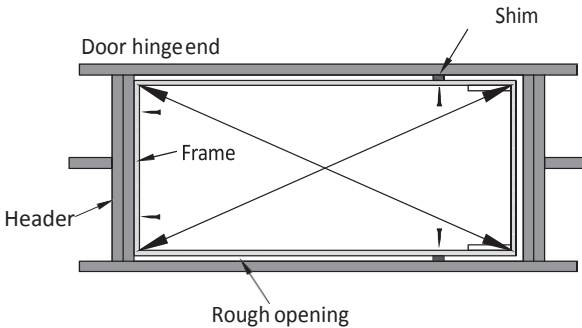

FIGURE 7
F. Make sure frame on door hinge end of ladder is pushed up against header and is centered side to side in rough opening. With the door closed, secure frame to header using two 2 1/2" wood screws (Figure 7). Due to the tight conditions, screws will need to be installed at an angle through the frame and into the header. Do not use the pre-drilled holes for the wood screws. These holes are used in Step 2.
G. Carefully open attic ladder door but do not unfold the climbing section until indicated in step 3. Center and square the opposite side of attic ladder frame in the rough opening using shims. Ensure ladder frame is square by measuring diagonals of the frame within 1/8" (Figure 7).
H. Secure sides of ladder frame to ceiling joists with 2 1/2" wood screws at shim locations (Figure 7). Do not use pre-drilled holes for wood screws. Pre-drilled holes are used in Step 2.